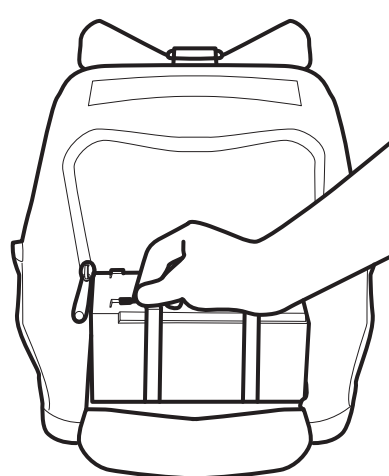

Figure 20
3. Turn the portable case around so that you can access the back, and open the back zipper. Connect the spade clip on the red wire of the power cable to the red terminal on the battery, and the spade clip on the black wire of the power cable to the black terminal on the battery. Make sure that the spade clips are snugly attached to the terminals (see Figure 20).